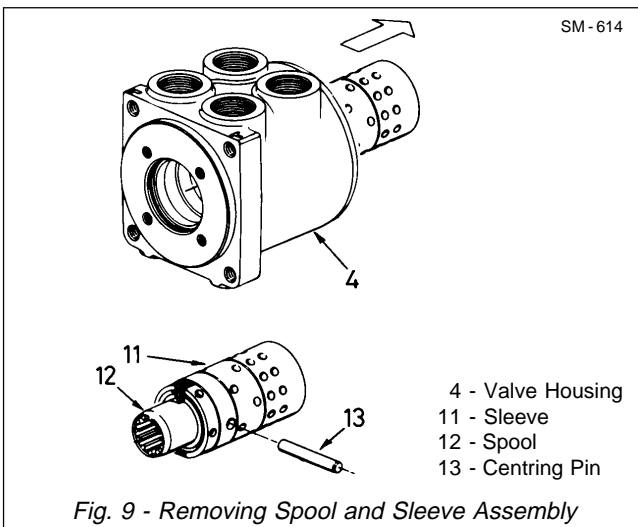

Fig. 9 - Removing Spool and Sleeve Assembly
12. Remove spool (12) and sleeve (11) assembly from 14 hole end of valve housing (4), as shown in Fig. 9.
Note: Avoid binding spool (12) and sleeve (11) in valve housing (4). Rotate spool (12) and sleeve (11) assembly slowly when removing from valve housing (4). Keep centring pin (13) in a nearly horizontal position when removing spool (12) and sleeve (11) assembly. See Fig. 9. If centring pin (13) becomes vertical during removal, it may drop from spool (12) and sleeve (11) assembly into an oil passage within valve housing (4).
13. Remove centring pin (13) from spool (12) and sleeve (11) assembly, as shown in Fig. 9.